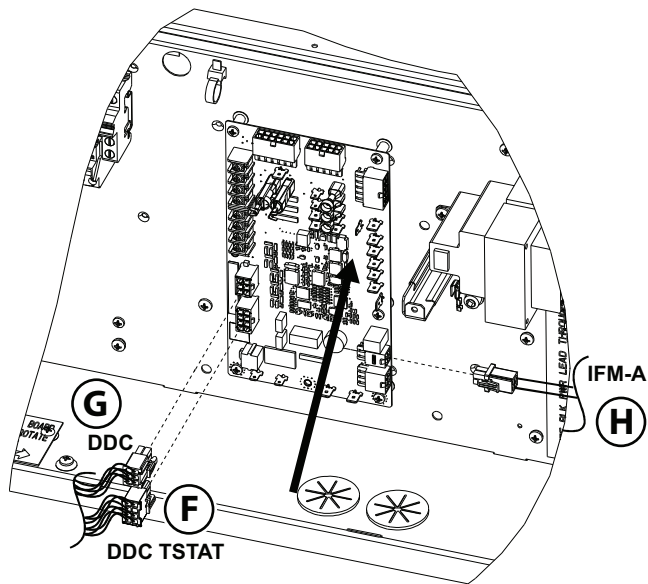

Fig. 10 — DDC, DDC TSTAT Connection, IFM Disconnection
2. Disconnect IFM. (See Fig. 10.)